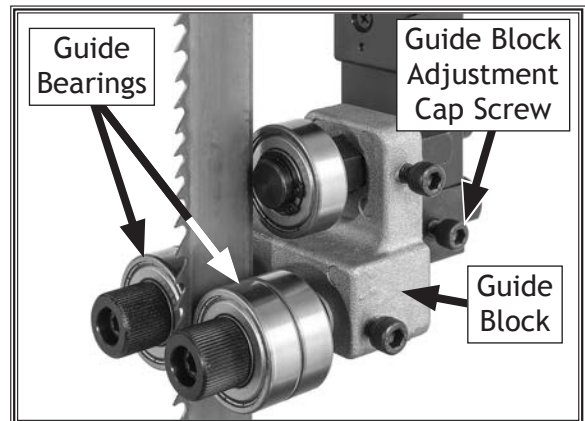
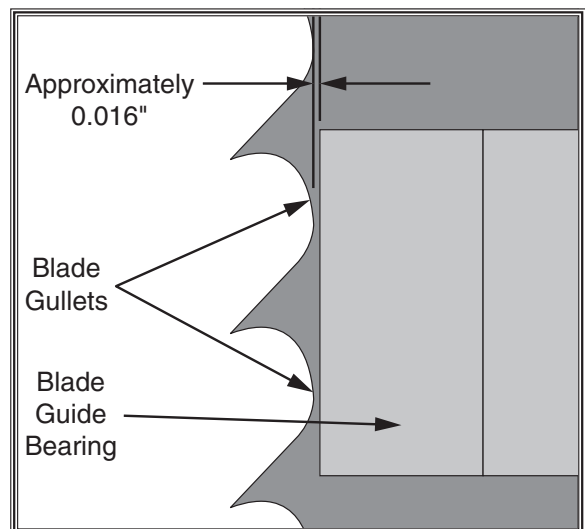

Figure 54. Upper guide bearing components (guide post cover removed for clarity).
Figure 55. Blade guide bearing positioned just behind blade gullets.
2. Loosen guide block adjustment cap screw shown in **Figure 54**, then position guide bearings just behind blade gullets, as illustrated in **Figure 55**. Retighten cap screw to secure setting.